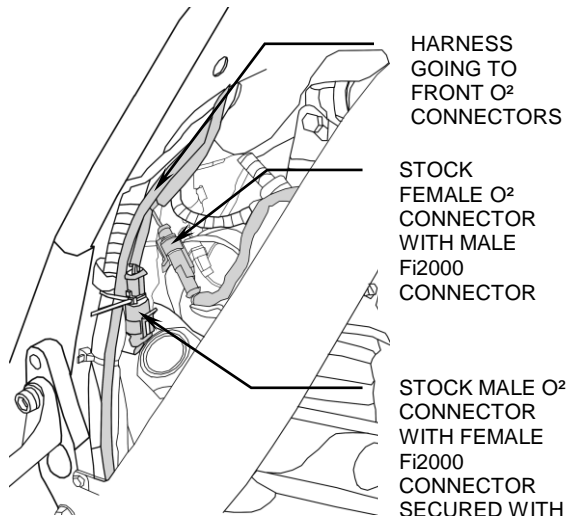

FIGURE 2
3. Locate and unplug the connector for the rear oxygen sensor. Plug the male connector of the shorter oxygen sensor harness into the connector on the oxygen sensor. Now plug the female pigtailed connector into the connector on the motorcycle's stock harness, see Figure 2.